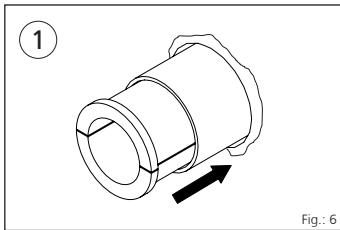

Fig.: 6
Mortar-fix the ESH support pipe (metal sleeve) in the enlarged opening using PCI-Polyfix quick-setting cement (see Fig. 6).
*In order to centre the ESH support pipe (metal sleeve) in the opening, the two half-shells of the centring sleeve are left in the wall sleeve until the quick-setting cement has hardened (see Fig. 6).*
Legend for Fig.: 6